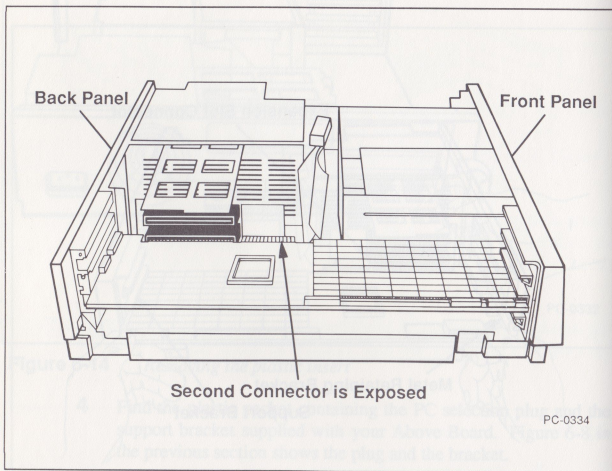

Figure 6-16 Above™ Board correctly seated in an IBM Personal System/2 Model 30 computer
- 9 The board should slide easily most of the way into the unused expansion slot. When you feel some resistance, check the alignment. When aligned, push firmly to seat the board in the expansion slot connector. Figure 6-16 shows the Above Board correctly seated in an expansion slot.
- ▼ **NOTE** When the Above Board is correctly seated in the Model 30 expansion slot, the board's second connector is exposed as shown in Figure 6-16. The second connector isn't exposed in the Model 30 286.